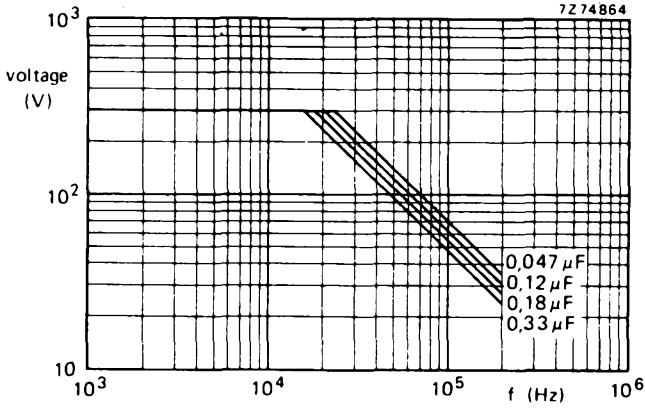

Fig. 3 Maximum permissible r.m.s. value of sinusoidal voltages as a function of frequency at $T_{amb} \leq 70^\circ C$, for 630 V version.
* At $T_{\text{amb}} \leq 70^\circ\text{C}$ the maximum permissible sinusoidal voltage can be found in Figs 3 to 6.